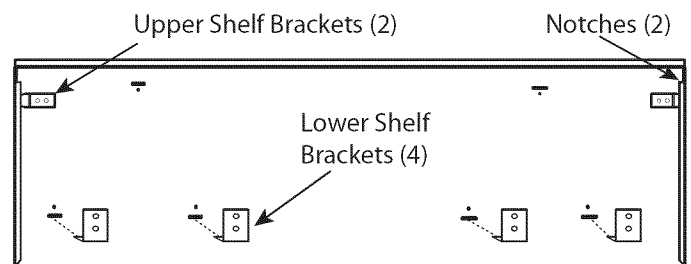

Figure 19: 48" Back of Wall Plate
2. Mount the (2) upper shelf brackets and the (3) lower shelf brackets on the 30" & 36" models or (4) lower shelf brackets for the 48" model at the locations outlined on the templates. Secure with (10) 1" (25.4 mm) screws provided.
5. Install the wall plate by setting the corner notches (back of wall plate) atop the (2) upper shelf brackets.
6. Slide the shelf upwards until the bottom engages with the (3) lower brackets on the 30" & 36" models or (4) brackets for the 48" models (Figure 19).